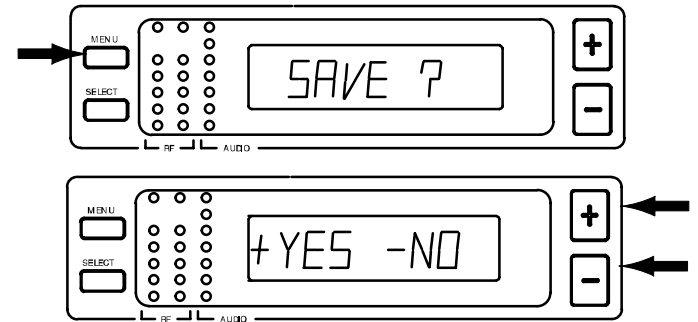

FIGURE 28
- Once you have reached the desired squelch level, press the MENU button. SAVE? will appear, followed by + YES - NO, as shown in Figure 28. Press the - button to make more changes, or press + to save the new squelch setting and return to the Group/Channel/TV display.